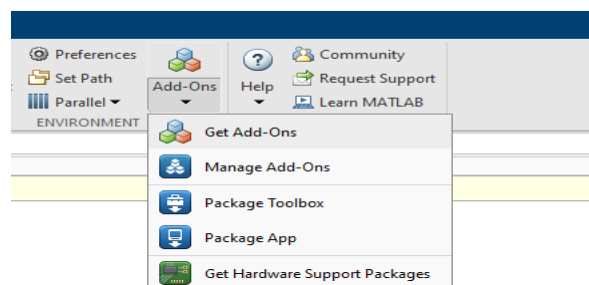

Figure 4.2: Automatic installation.
1. Installation through MATLAB by clicking the **Add-Ons** icon and choose **Get Add-Ons** as Figure 4.2 then find the listed library.